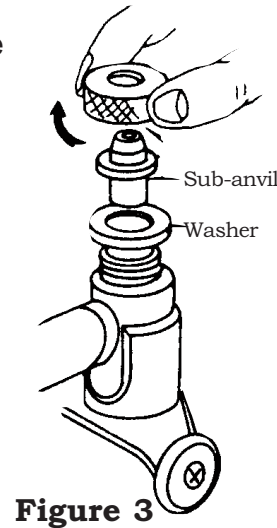

Figure 3
- For the required measuring dimension select the appropriate interchangeable rod, interchangeable washers, and sub anvils and set them on the main unit. See Figure 3.